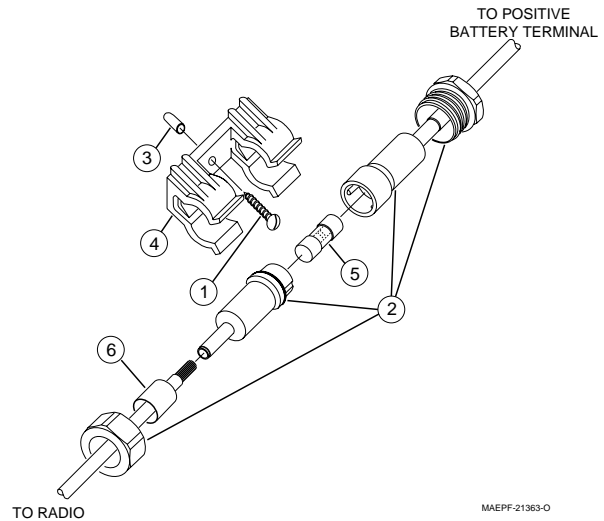

Figure 9 High-Power Main Fuse Assembly (40-Amp)
Remove the fuse from the fuseholder and connect the short red cable with the fuse connection to the positive battery terminal. Cut the long red radio power cable to the proper length and strip the red insulation back 3/4" from the end. Slide the heat-shrink tubing provided with the equipment over the cable. Insert the stripped end into the fuse receptacle (assembly shown in Figure 9), and solder it for a good electrical connection. After soldering has been completed, slide the heat-shrink tubing over the solder joint and apply heat. **DO NOT** install the fuse until instructed to do so.
- On the end still connected to the cable kit, slide the plastic insulator fuseholder over the wire as shown in Figure 9. Insert the stripped end of that wire into one of the metal fuse clips, and crimp it closed onto the exposed wire. Solder it for a better electrical contact.